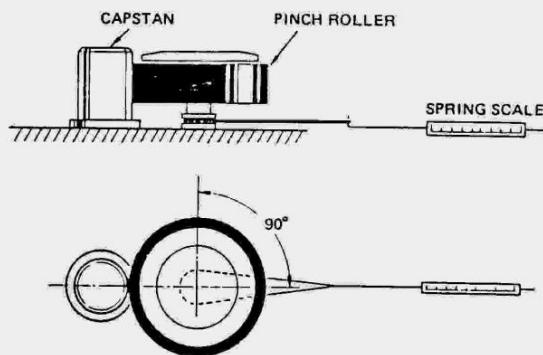

Fig. 5.1
- Attach a suitable spring scale to the pinch roller shaft with a short loop of twine as shown in Fig. 5.1.